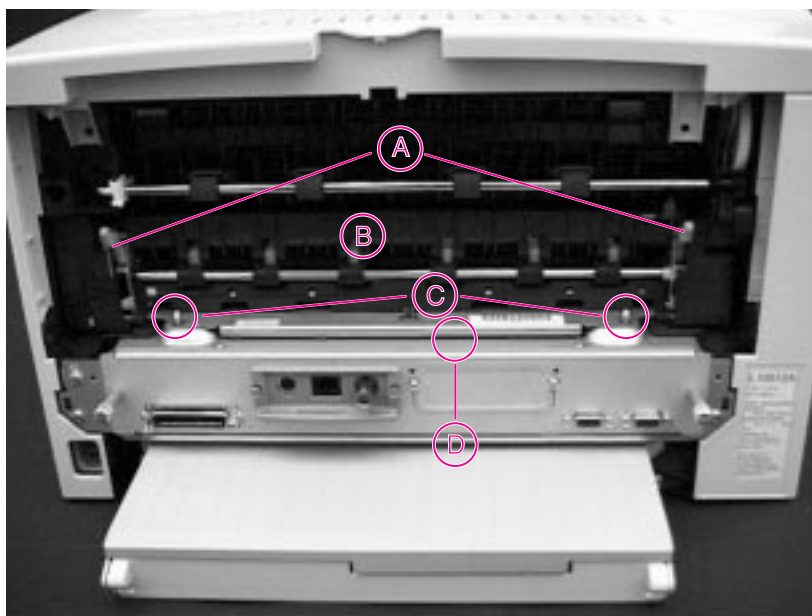

Figure 6-23 Fuser (rear view of printer)
- 2 Facing the back of the printer, remove the two machine screws holding the Fuser in the chassis. See Figure 6-23.